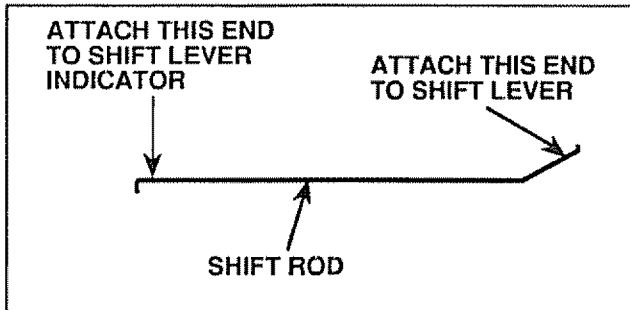

FIGURE 6
- Insert one end of Shift Rod (Fig 6) into hole of Shift Lever Indicator.